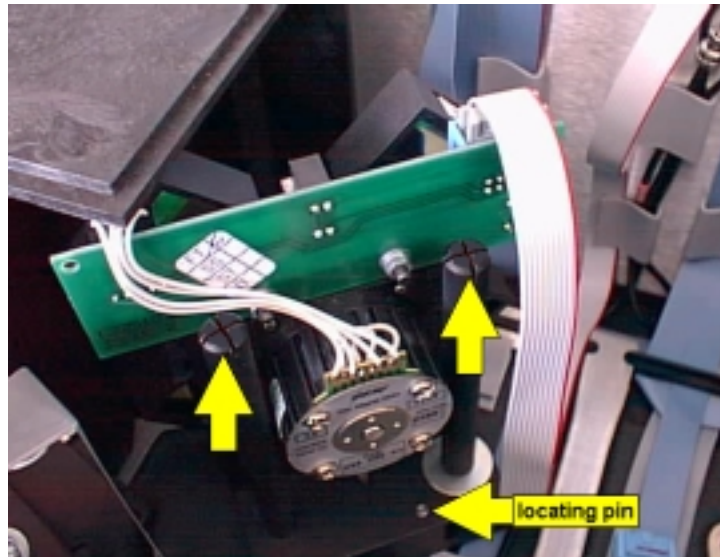

Figure 101 Fixing the filter wheel to the plinth
13. Secure using the 2 long screws fixed to the motor assembly, as shown in Figure 101.